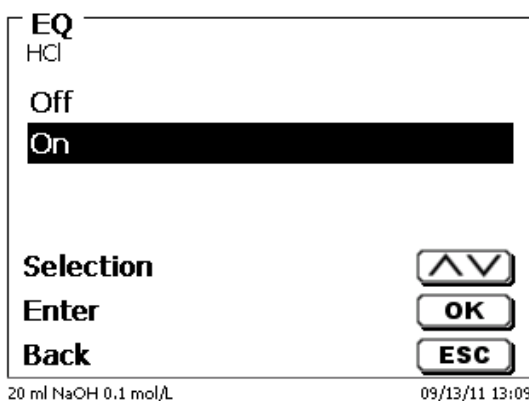

Fig. 155
Automatic detection of the equivalence point (EQ) can be switched on and off for linear or dynamic titration (Fig. 155).